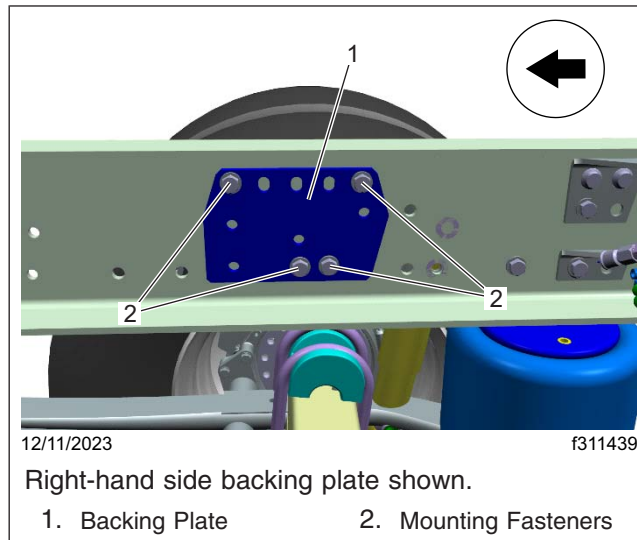

Fig. 6, Lateral Control Rod Backing Plate
- Remove the fasteners that attach the lateral control rod backing plate to the right-hand frame rail, as shown in **Fig. 6**. Remove and discard the right-hand side backing plate.